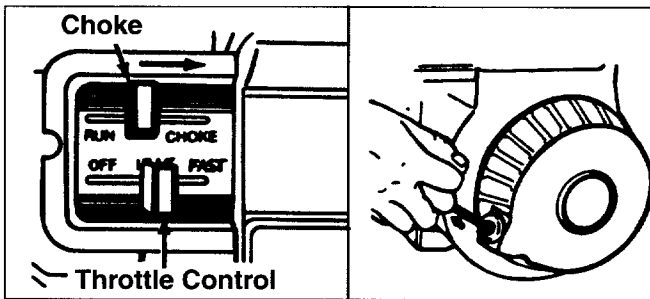

FIGURE 9.
The throttle control lever is located on the engine. It controls the engine speed and stops the engine. See figure 9.
2. Place the throttle control lever in FAST position. See figure 9.